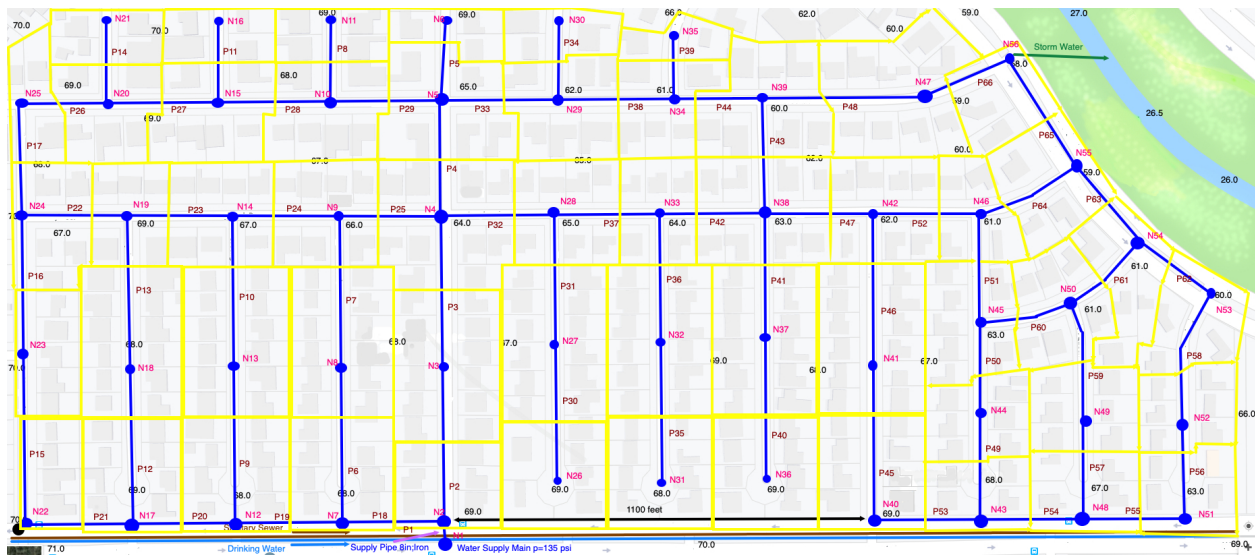

Figure 2: Somewhere USA Water Distribution (Skeleton) System
2. Figure 2 is a layout of a water distribution system for the SomewhereUSA subdivision. The blue line segments are pipes (ductile iron) and are labeled (P1, P2, . . .). The blue circles are nodes and are labeled (N1, N2, . . .). The yellow polygons represent the demand lots assigned to each node. For example, node N2 supplies the six (6) individual lots located near the node.